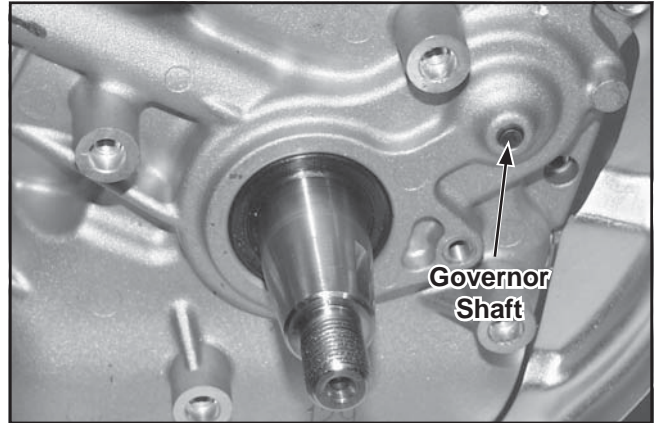

Figure 9-55. Remove Governor Gear Shaft.
2. Using a suitable drift, drive the governor gear shaft from the crankcase. See Figure 9-55.